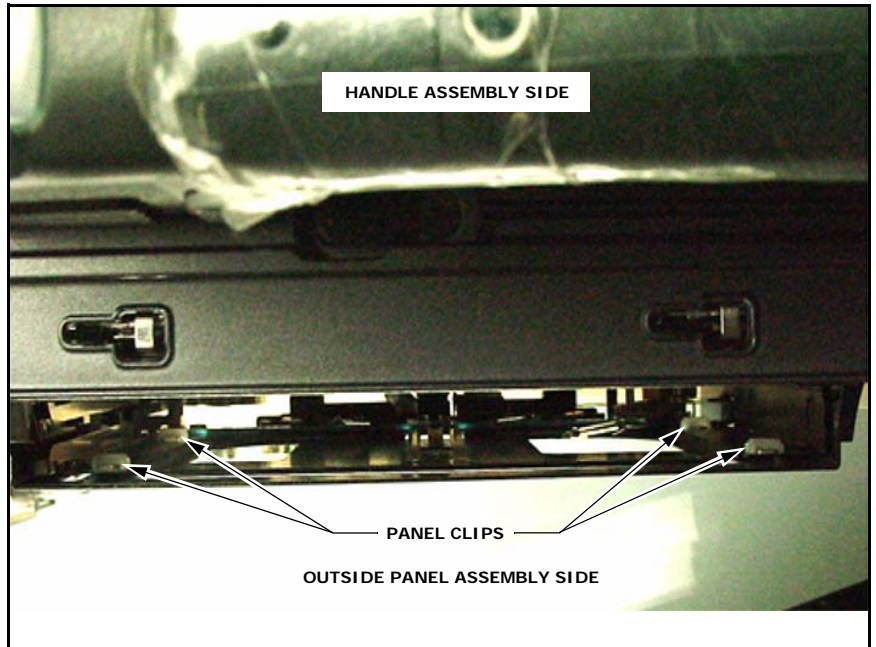

Figure 1
2. Confirm that the four panel clips of the P1 loader are installed correctly. (See Figure 1.)
3. If any panel clips are missing, replace the P1 loader assembly (RP) with a new one.